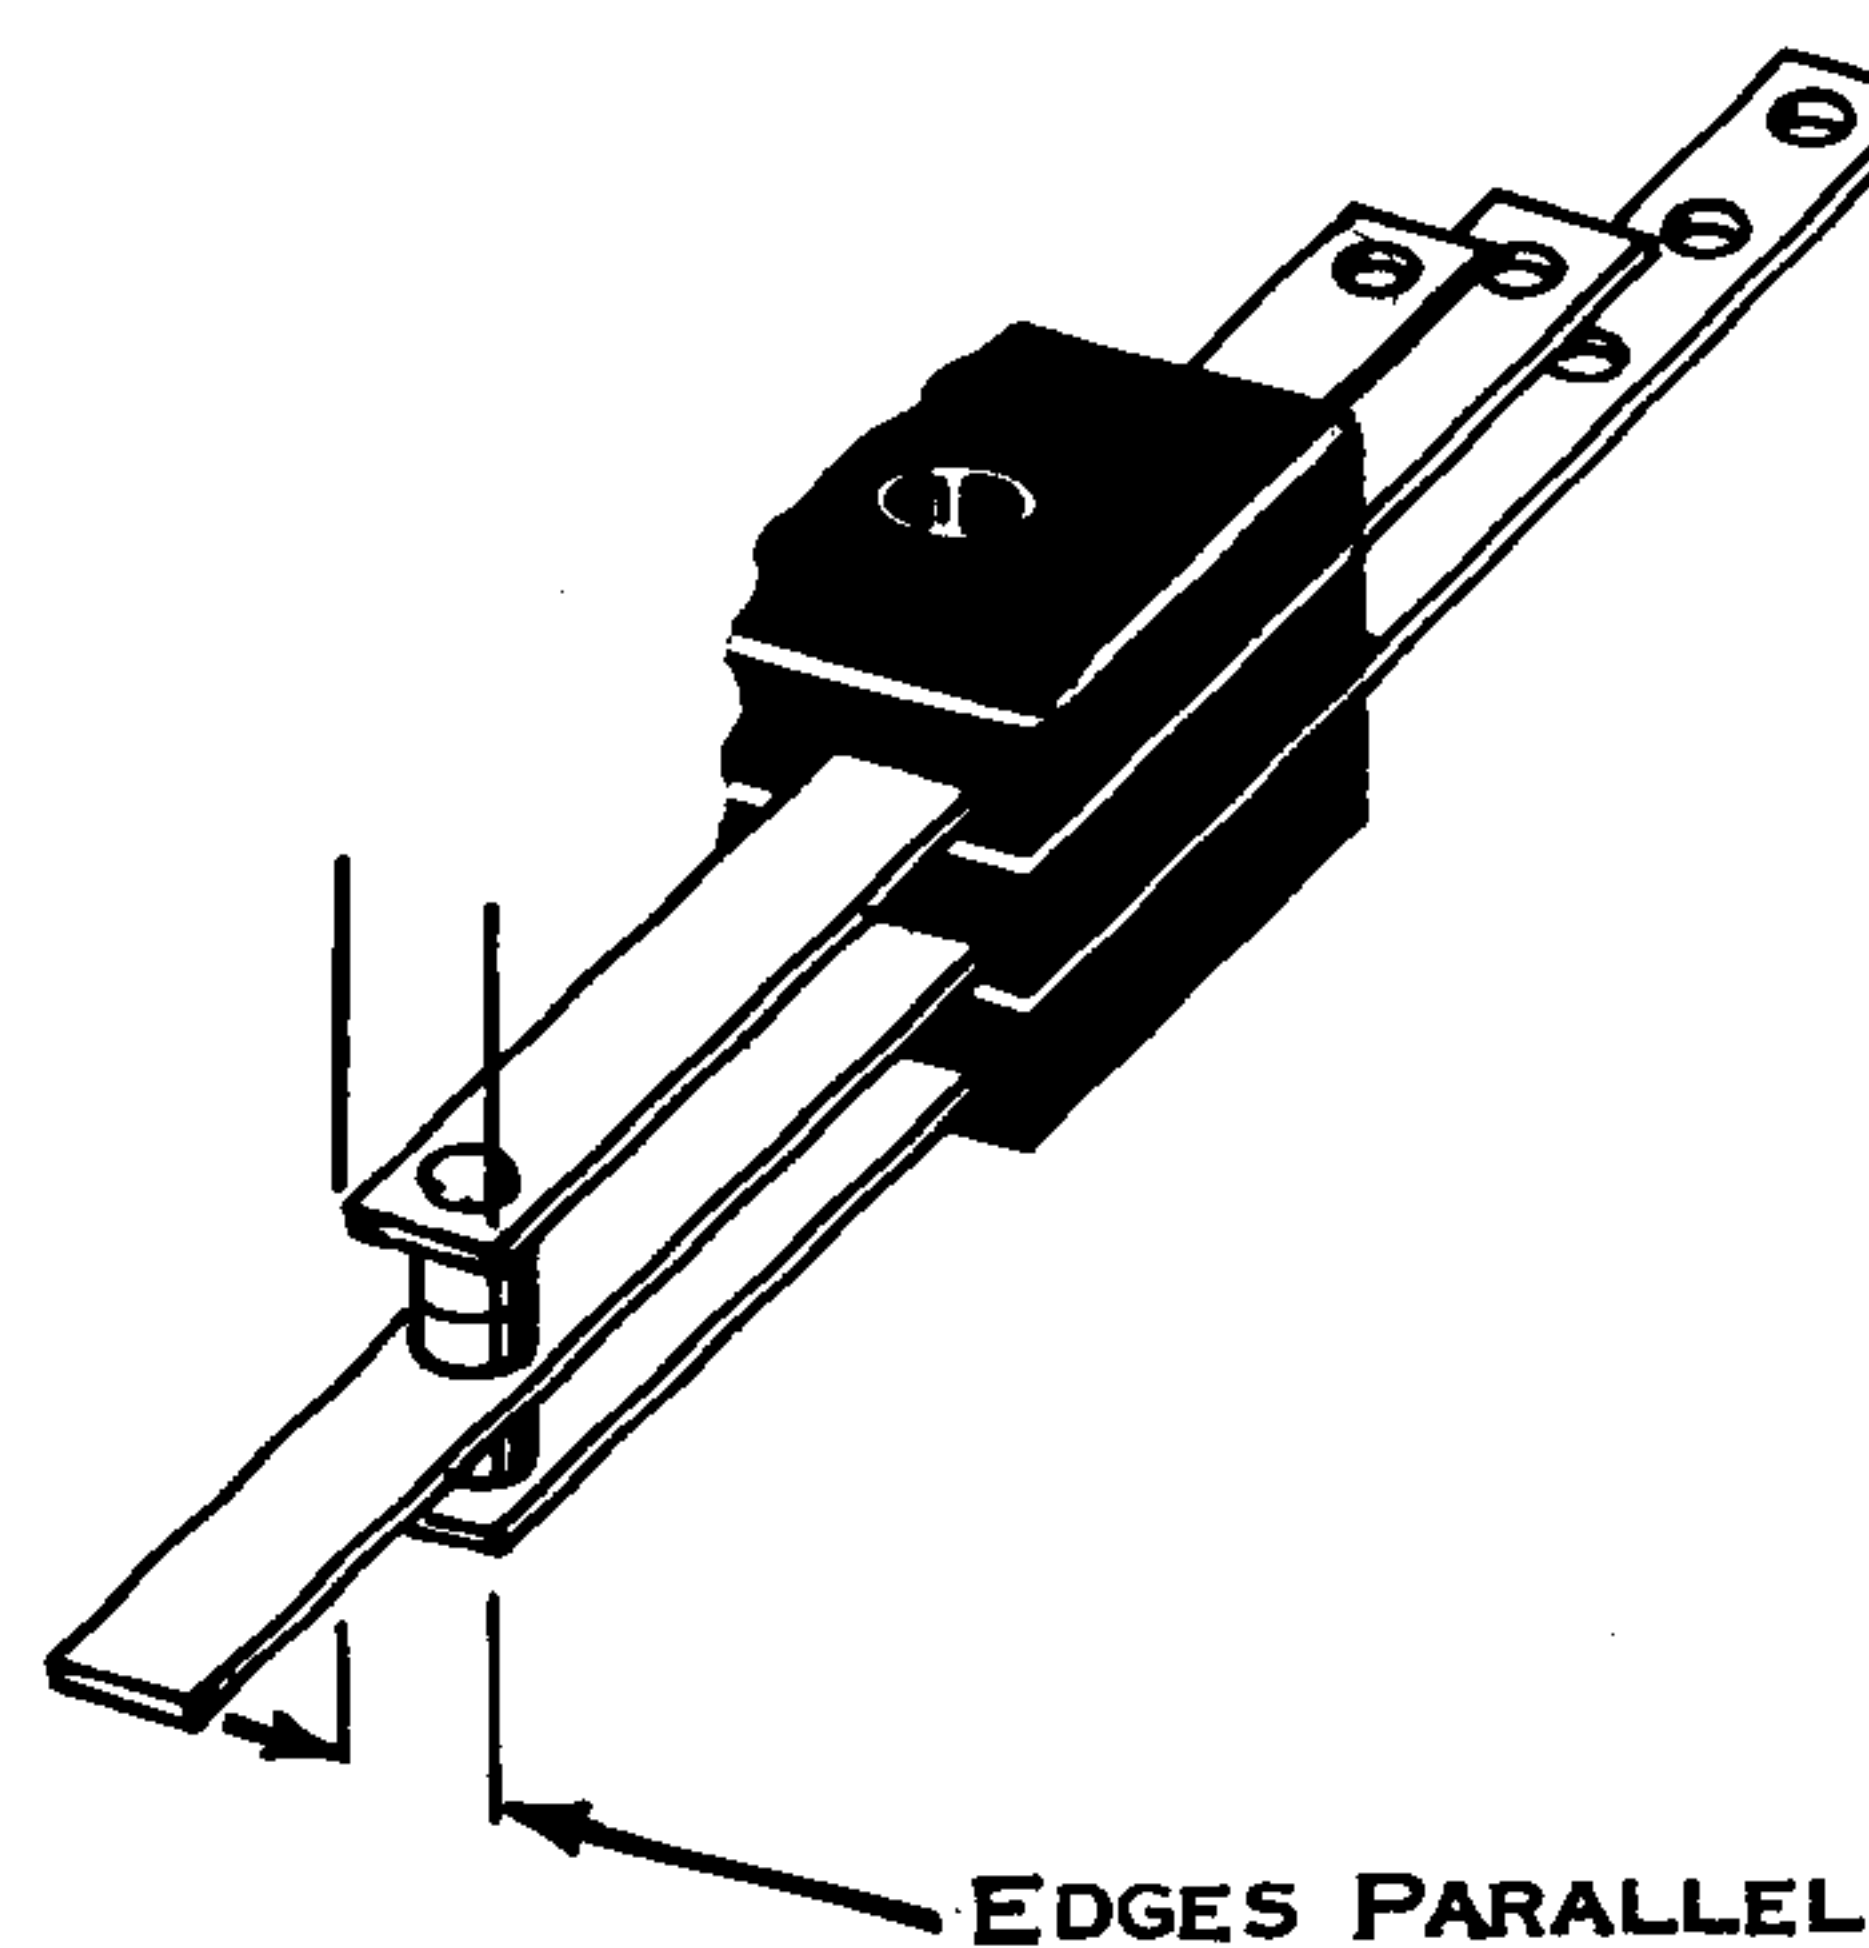

Figure 32. Contact Stacks
1. Contact Stacks (Fig. 32) - Align so that the strap edges are parallel. Loosen mounting screws and shift contact blocks for adjustment.